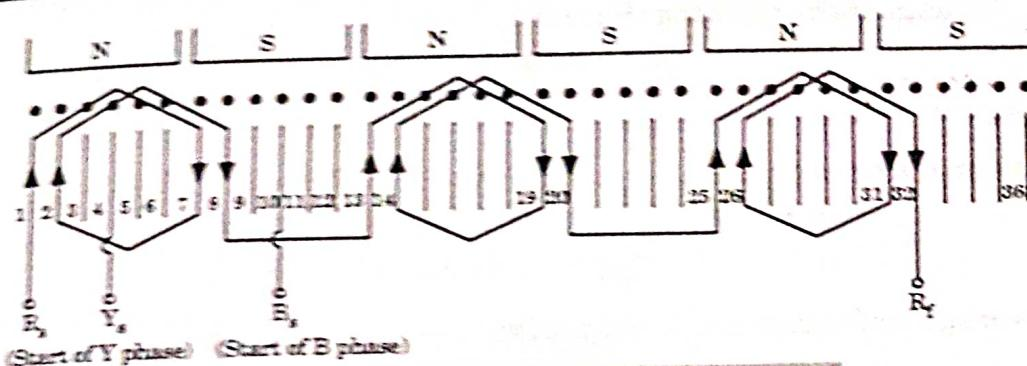

Fig. 1.7.1. Winding scheme for phase R.
8. The starting end  $R_s$  and final end  $R_f$  for R phase are taken out finally. The connections for R phase are shown in the Fig. 1.7.1.